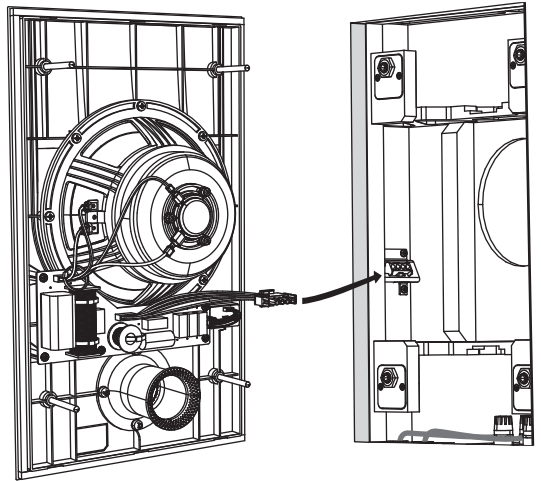

Fig. 1. Connecting the Wiring
1. With the help of an assistant, lift the PCI 7DC IW loudspeaker assembly close to the drywall aperture, and securely attach the four-pin wiring connector into the corresponding connector inside the back can (Fig. 1).